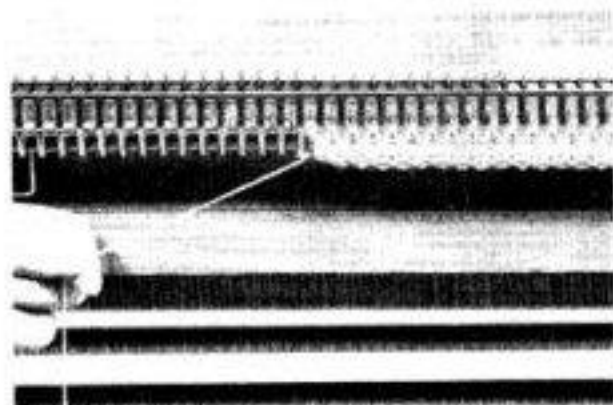

Fig.34
- (g) Pull out the divider thread. (Fig.34)